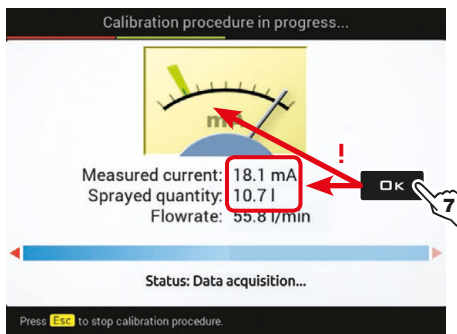

Fig. 148
- The display will show in real time the quantity of sprayed water and the calibration status (Fig. 148).